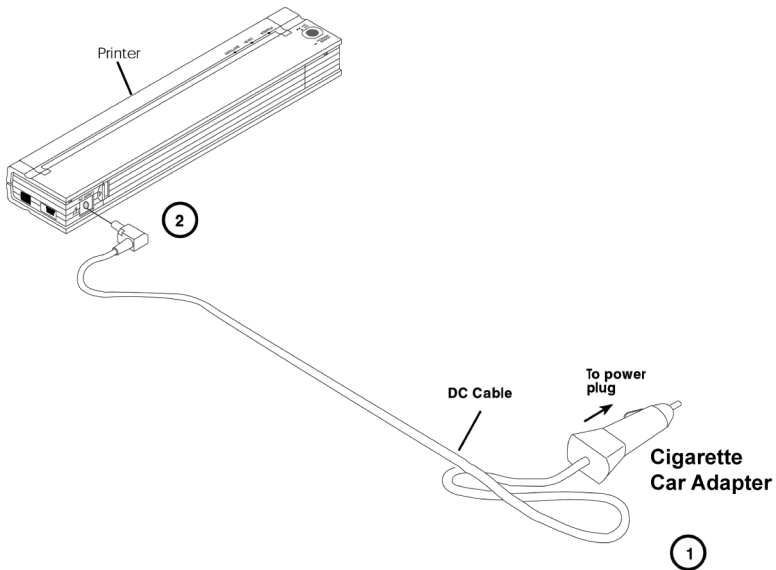

Figure 3. Connecting the printer to DC power
1. Connect a PA-AD-500CG / WR (either with a cigarette plug or direct wired) to the vehicle 12VDC supply as shown in Figure 3. (These items are available as options)